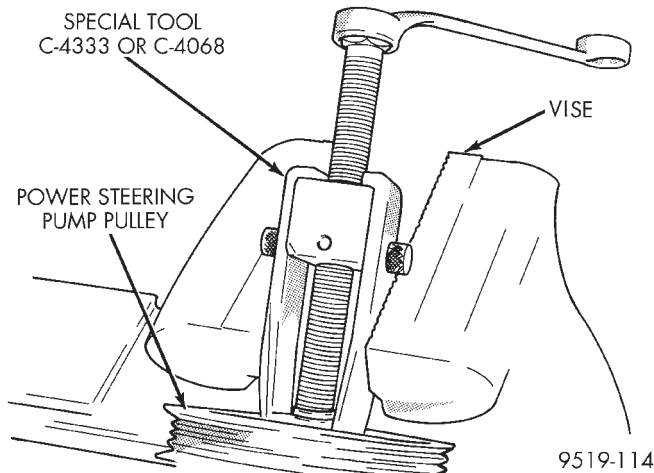

Fig. 47 Removing Pulley From Power Steering Pump Shaft
(2) Mount Puller, Special Tool C-4333 or C-4068 on power steering pump pulley. Mount power steering pump and puller in a vise (Fig. 47) to keep shaft of power steering pump from turning when removing pulley.